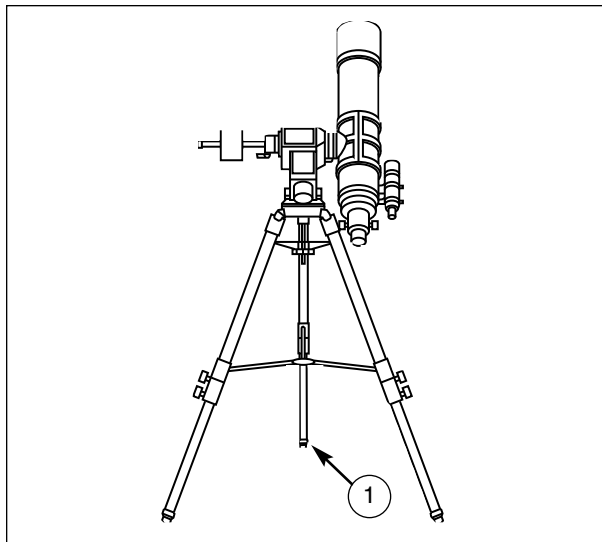

Fig. 7: Aligning the Telescope. (1) Alignment tripod leg.
- Face the field tripod leg (1), Fig. 7, that is centered under the Power Panel, so that the LXD mount points to the approximate North or South Pole star position in the sky (using a simple hand held compass may help). Then, use the Bubble Level located on the base of the LXD mount to level the telescope.
6. Loosen the R.A. and Dec lock knobs on the LXJ Equatorial Mount. Position the optical tube assembly so that the Dec Circle reads 90°. Retighten the Dec Lock Knob. Then loosen the R.A. lock knob and rotate the telescope so that the R.A. pointer and the Hour Angle Pointer are approximately in line with each other. This will position the tube assembly and the counterweight so that they are parallel to the ground and the Power Panel is facing the sky, as shown in Fig. 7. This step is necessary for the CDS to work. The telescope has some "illegal" positions (places where the telescope will not go) and these two steps insure proper operation.